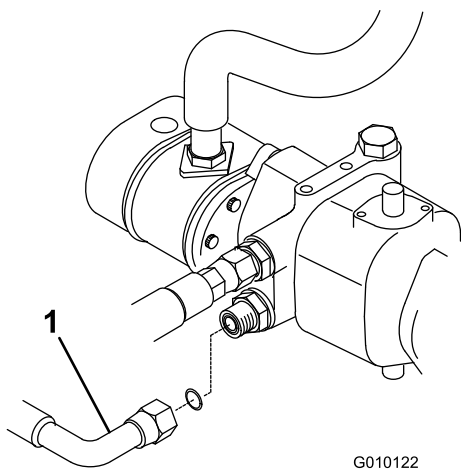
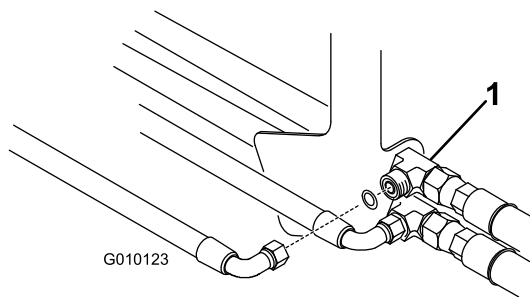

Figure 6
Figure 7
- Disconnect the lower hydrostat hose from the hydrostat (Figure 6) and from the upper bulkhead tee fitting to the front wheel motors (Figure 7). Remove and discard it.